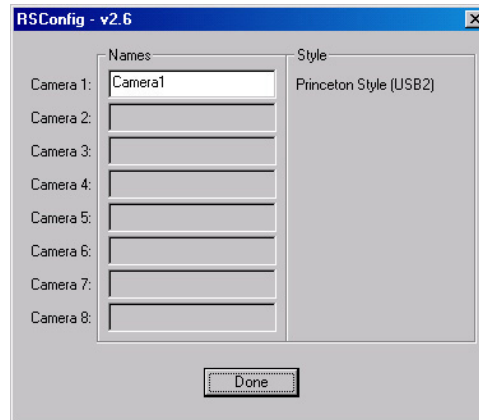

Figure 57. RSConfig dialog box
4. When the RSConfig dialog box (Figure 57) appears, you can change the camera name to one that is more specific or you can keep the default name "Camera1". When you have finished, click on the **Done** button.